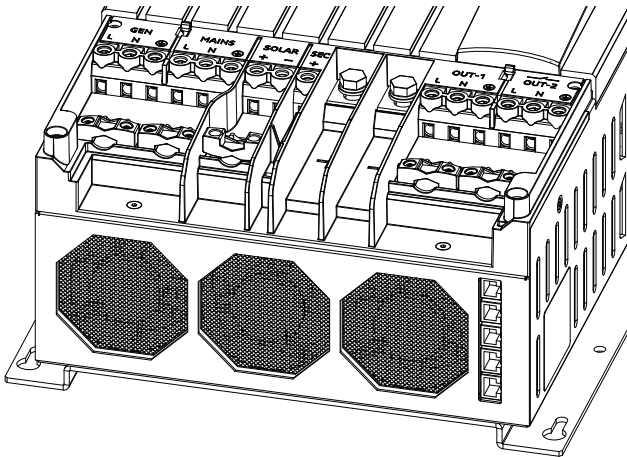

Figure 5-3: Front lid removed
- 2 Lift the front cover plate from the cabinet; see figure 5-3